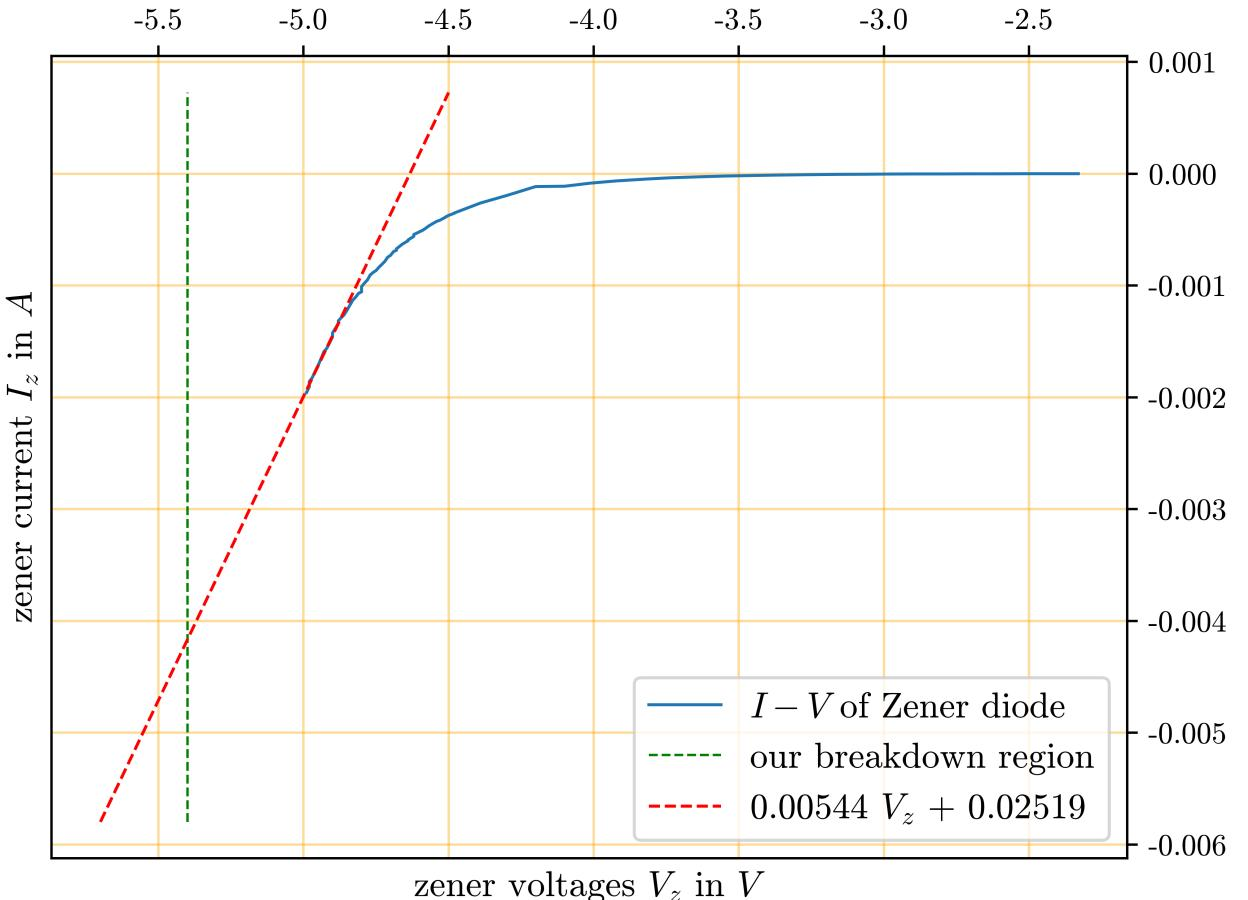

Figure 8: current and voltage characteristics of zener diode
The noise in the circuit will be relatively higher at the zener breakdown region. As we discussed from the theoretical part, noise power will be proportional to current flowing in the zener diode (here, we are assuming that noise from other parts is almost zero). To prepare a zener diode (BZX55C5V1) to break down the region we choose 5.4V. This is calculated from For our purpose we utilised a general purpose zener diode with breakdown region between 4.8V to 5.4V with current of μA order. We first did the Current and voltage characteristics of zener diodes. The useful information we got from there is source voltages, zener voltages and current that we particularly needed in our project. Our aim was to never exceed the LOCK IN amplifier's input limits. Current and voltage characteristics are down in figure 8. The zener diode we used had its datasheets, which you can see from Appendix. Its power rating is ... [9]
- Shot noise and avalanche noise: From theoretical section we have equation 7 and corrected with multiplicative factor M after avalanche noise. Here, We have current values from current and voltage values from figure 8. At 5.4V it is $\approx -4.186mA$. Also, $e = -1.602 \times 10^{-19}C$ and M for silicon based zener diode is about 5 to 10,